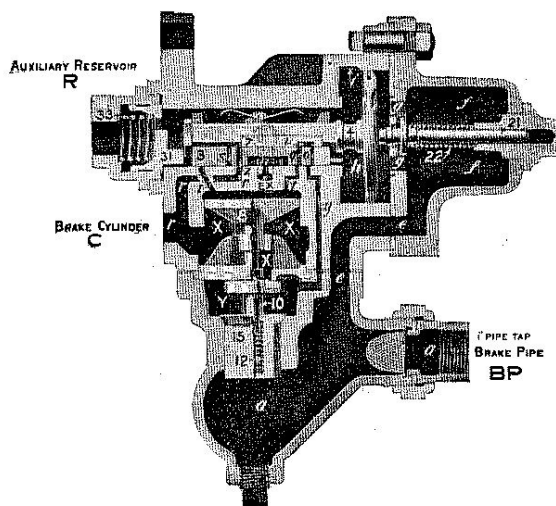

Fig. 15: Full Service Position.
A. No; with short trains, the brake pipe volume being comparatively small, will reduce more rapidly for a certain reduction at the brake valve than with a long train. Therefore, with a short train, the brake pipe pressure reducing more quickly, the triple piston and its valves will move to "full service" position, as shown in Fig. 15. In this position the quick service port "y" is closed, so that no air flows from the brake pipe to the brake cylinder. Thus, when the brake pipe reduction is sufficiently rapid, there is no need for this quick service reduction, and the triple valve automatically cuts out this feature of the valve when not required.